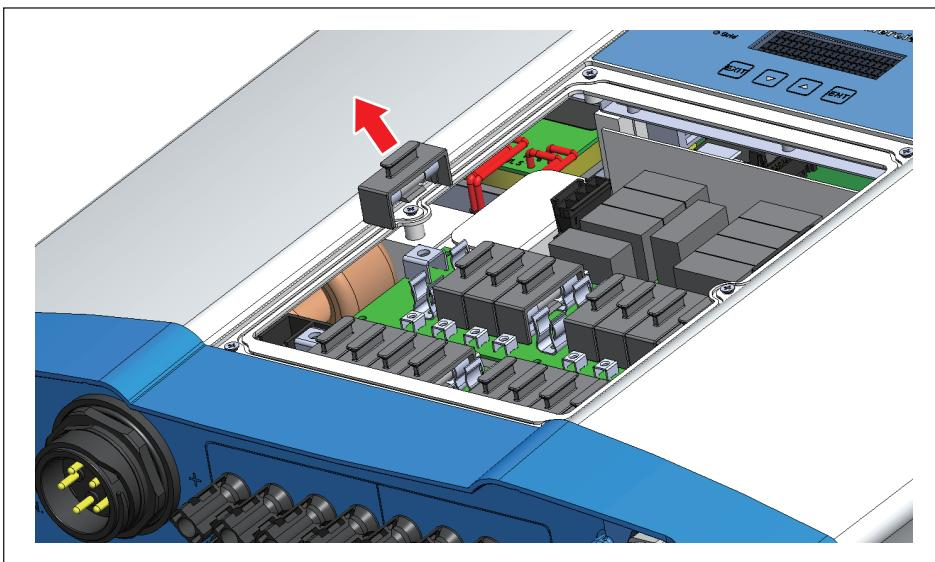

Figure 6-5 : Pull out the fuse
3. Pull out the fuse holder and check the fuse. (**Figure 6-5**)